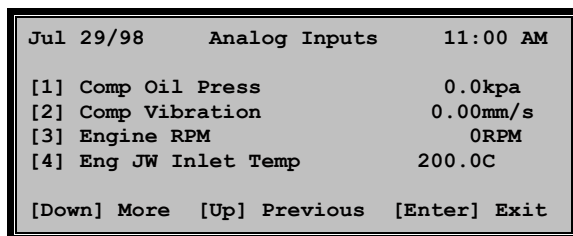

Figure 2–13
- (b) The ANALOG INPUTS screen (Figure 2–13) will be displayed.